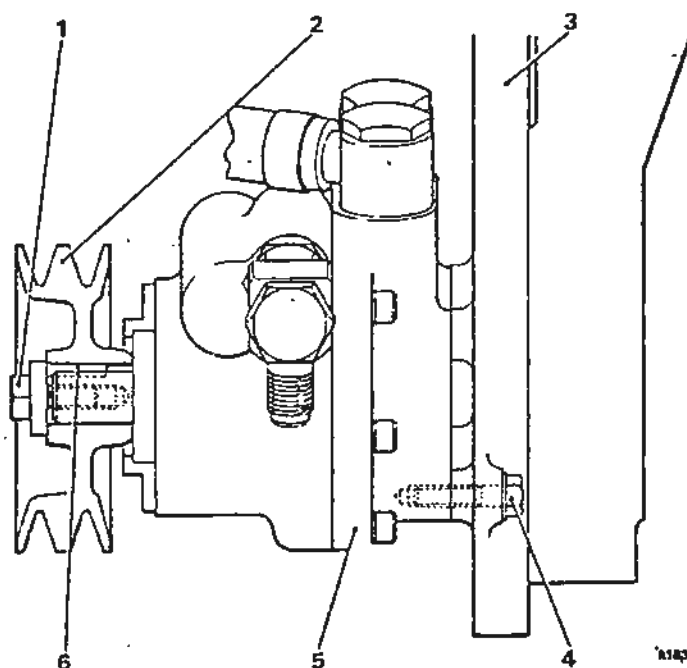

Figure 1. Fitting pump to swivel bracket
10. Using Figure 1 for reference, fit the adapter (RH 8914), banjo (UE 30019), banjo bolt (UE 30020) and new sealing washers (UE 2514).